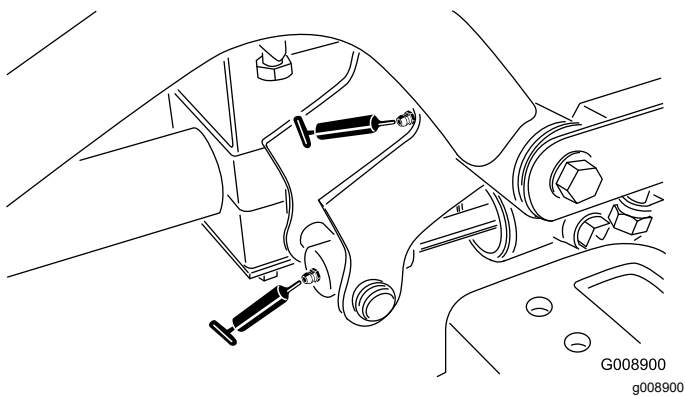

Figure 39
- 2 right, front lift-arm pivots and lift cylinder (Figure 39)